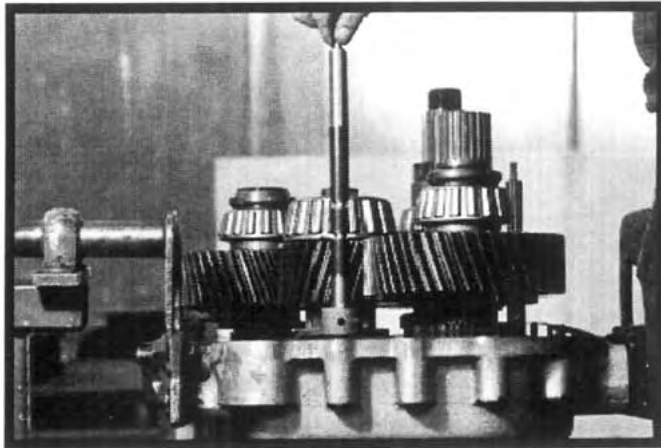

Figure 6.36
12. Insert the high/low range shift shaft through the bores in the shift forks and into the bore in the front housing (threaded end of the shaft upward). See Figure 6.36.